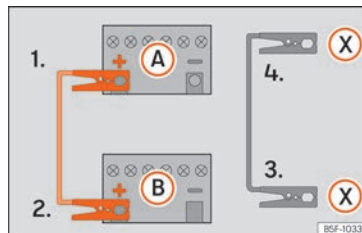

Fig. 81 Diagram of connections for vehicles with Start-Stop system.
- 4b. *In vehicles with a Start-stop system:* connect one end of the *black* jump lead (X) to a suitable ground terminal, to a solid piece of metal in the engine block, or to the engine block itself » Fig. 81.
5. Connect the other end of the *black* jump lead (X) to a solid metal component bolted to the engine block or to the engine block itself of the vehicle with the flat battery. Do not connect it to a point near the battery (A).